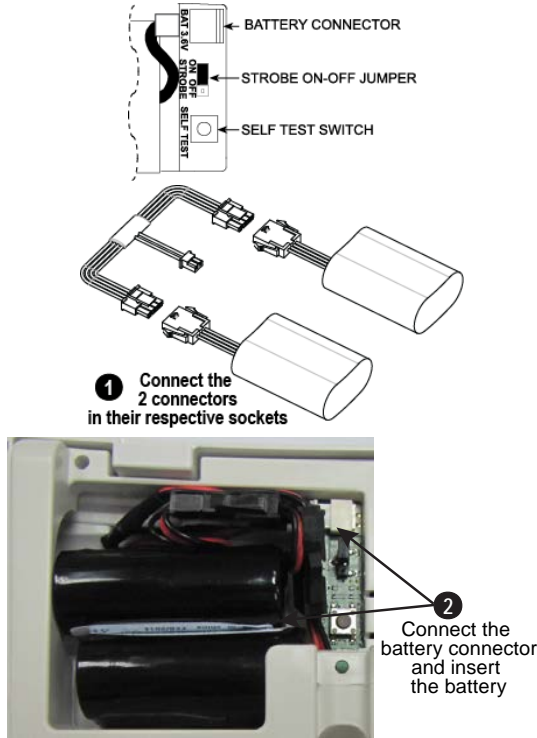

Figure 4 - Battery Pack Insertion
- Battery:** Four 3.6V/3.5A/H Lithium independent cells (EVE ER18505M) assembled in two plastic wrappings and connected to the cable adaptor (see Figure 4). Visonic assembly catalog no. 103-304742.
Upon pressing the self-test switch more than 3 seconds (see Fig. 4), the siren performs a functionality check during which low level piezo sounds and flash lights indicate that the siren is fully operational.
The PowerMax Pro / PowerMaxComplete alarm system must recognize the siren's unique identification code for command delivery and supervision. To enroll the siren into the alarm system memory, refer to the ENROLLING section of the control panel installation instructions, and momentarily press the self-test switch (see figure 4) when you are instructed.
Enable or disable the strobe (flash) light by using the STROBE ON-OFF jumper (see figure 4).